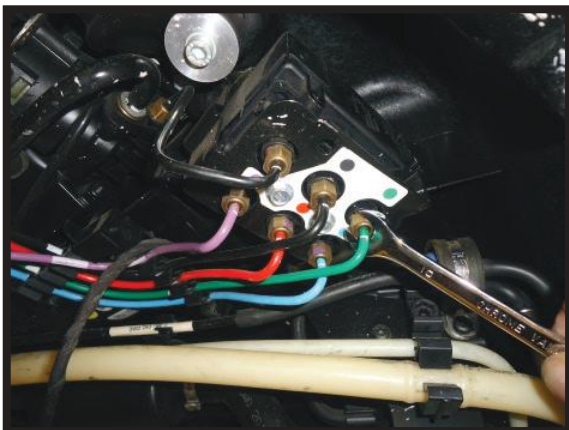

FIGURE 4
6. Slowly loosen and remove five (5) air lines leading from the vehicle to the valve block. The black air line from the compressor to the valve block does not need to be removed. (FIGURE 4)